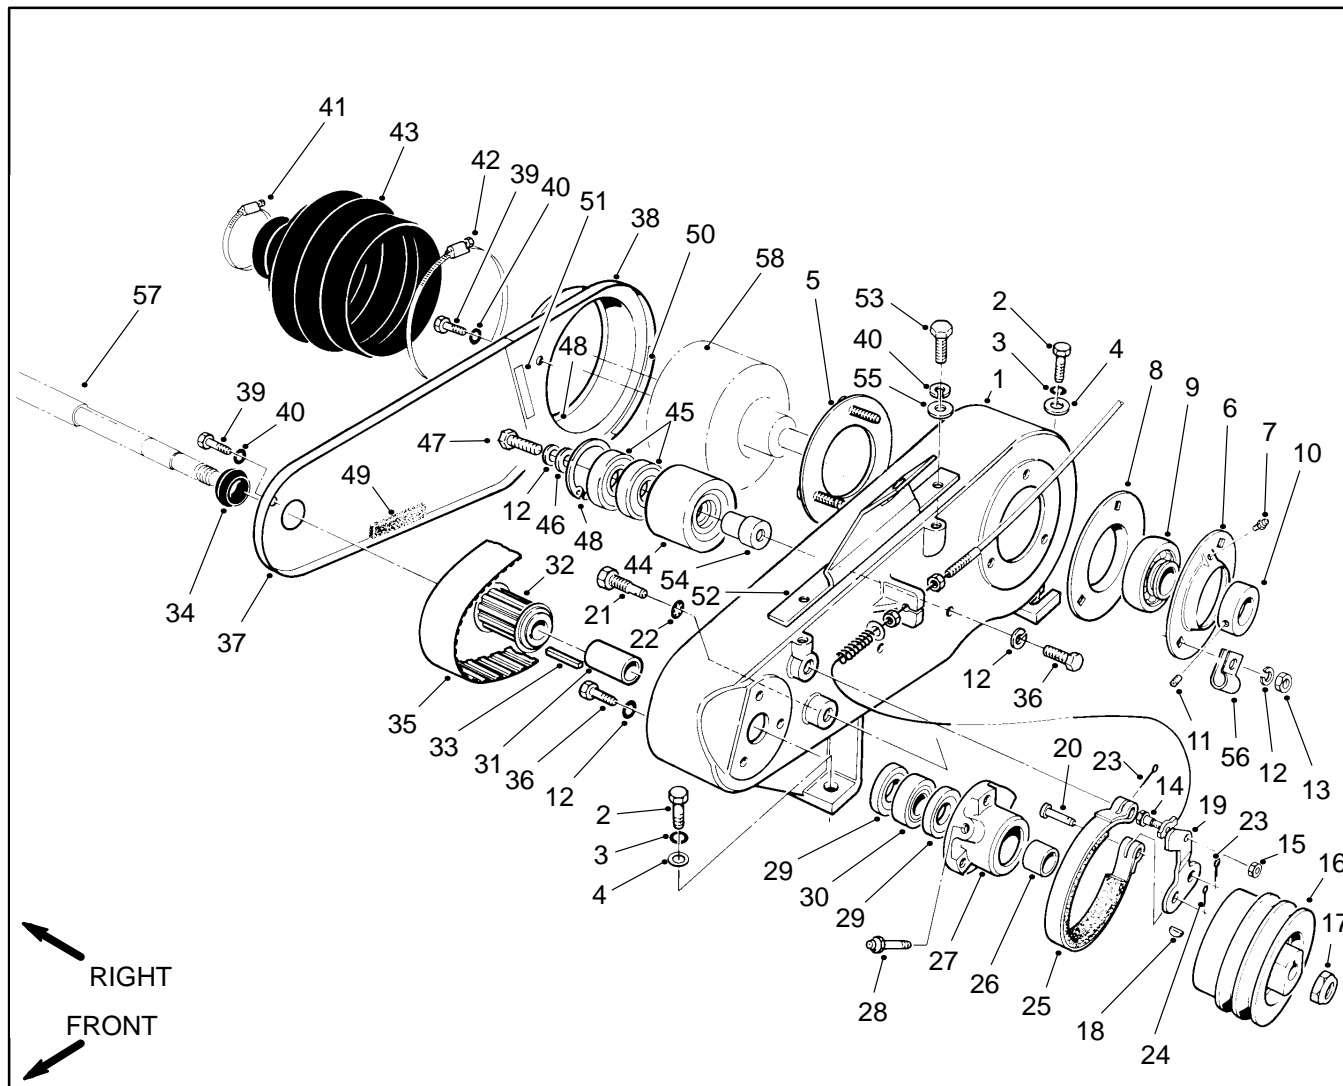
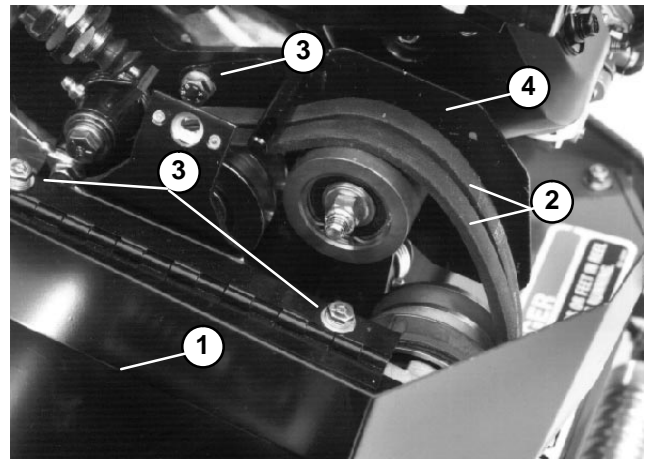

Figure 33
Figure 34
2. Remove interference to brake band (Fig. 34).
4. Remove lock nut (17) from power shaft (57). Slide input shaft pulley (16) off the shaft. Remove key (18) from the shaft (Fig. 33).
5. Remove brake band (25) from counter shaft housing (1) as follows (Fig. 33).
- A. Remove cotter pin (23) from the brake support (21).
- B. Remove cotter pin (24) and clevis pin (20) from the brake lever (19).
6. Reinstall interference previously removed (Fig. 34).
4. Apply never seize to the keyway area of the power shaft (57). Install key (18) to the shaft (Fig. 33).
5. Slide input shaft pulley (16) onto the power shaft (57) and through the brake band (25). Secure pulley to the power shaft with lock nut (17) (Fig. 33 and 35).
2. Remove cap screw (39) and lock washer (40) from the front box cover (37) and counter shaft housing (1). Remove cover from housing (Fig. 33).
3. Loosen cap screw (36) enough to rotate idler pulley (44) away from the belt (35). Loosen belt by rotating the idler pulley counterclockwise (Fig. 33).
4. Remove three cap screws (36) and lock washers (12) from the counter shaft housing (1) and bearing housing (27). Slide the bearing housing off the power shaft (57) (Fig. 33).
2. Slide the bearing housing onto the power shaft (57).
3. Secure three cap screws (36) and lock washers (12) through the counter shaft housing (1) and into the bearing housing (27) (Fig. 33).
6. Remove jam nuts (13), lock washers (12), and cable clip (15) from the studs of screw plate (5) (Fig. 33).